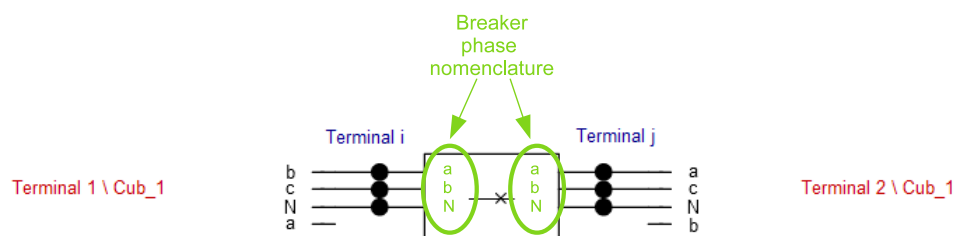

Figure 1.1: Breaker phase nomenclature.
Breakers can have a variable number of phases. The number of phases and neutral are defined on the basic data page. By clicking on "Figure" on the right, the detailed connections are shown. An example is given in Fig. 1.1, where a breaker is connected to phase b, c and neutral at Terminal 1 and to phase a, c and neutral at Terminal 2. Although this case seems unlikely, it is an example of the phase nomenclature being ambiguous, as it does not match for both terminals. Therefore, breakers define their own naming according to the number of phases, independent from the connected terminals. The phases are counted from a to c as usual. Hence, a breaker that is connected to two phases always defines the phases a and b, independent from the actual connection to the terminals. The neutral is named and counted separately. Regarding the example in Fig. 1.1, this means that the breaker defines phases a, b and neutral (N). This nomenclature is used in the following sections. See also Sec. 5.3.4 for an example to further clarify.